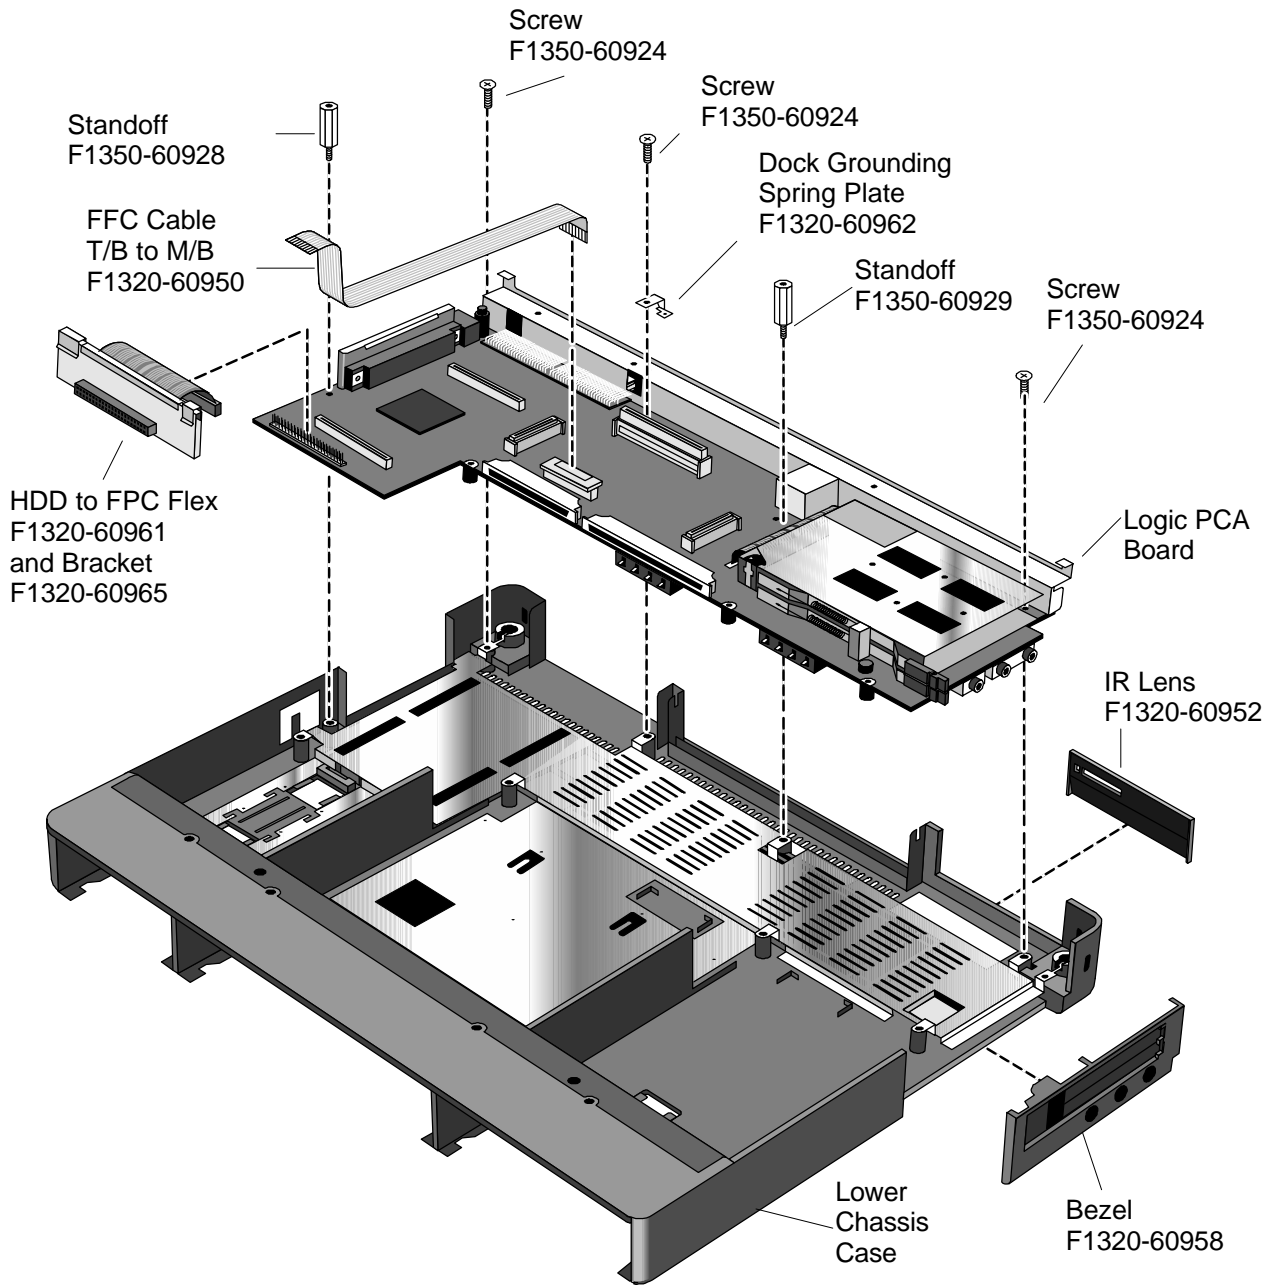

Figure 41 - Logic PCA Board Removal
5. To remove the Logic PCA Board from the Lower Chassis Case, three screws, two standoffs, the FFC Cable T/B to M/B, and the HDD-FPC Flex must first be removed. See Figure 41 on page 88 for the location of these components. The IR Lens and Bezel are now accessible.